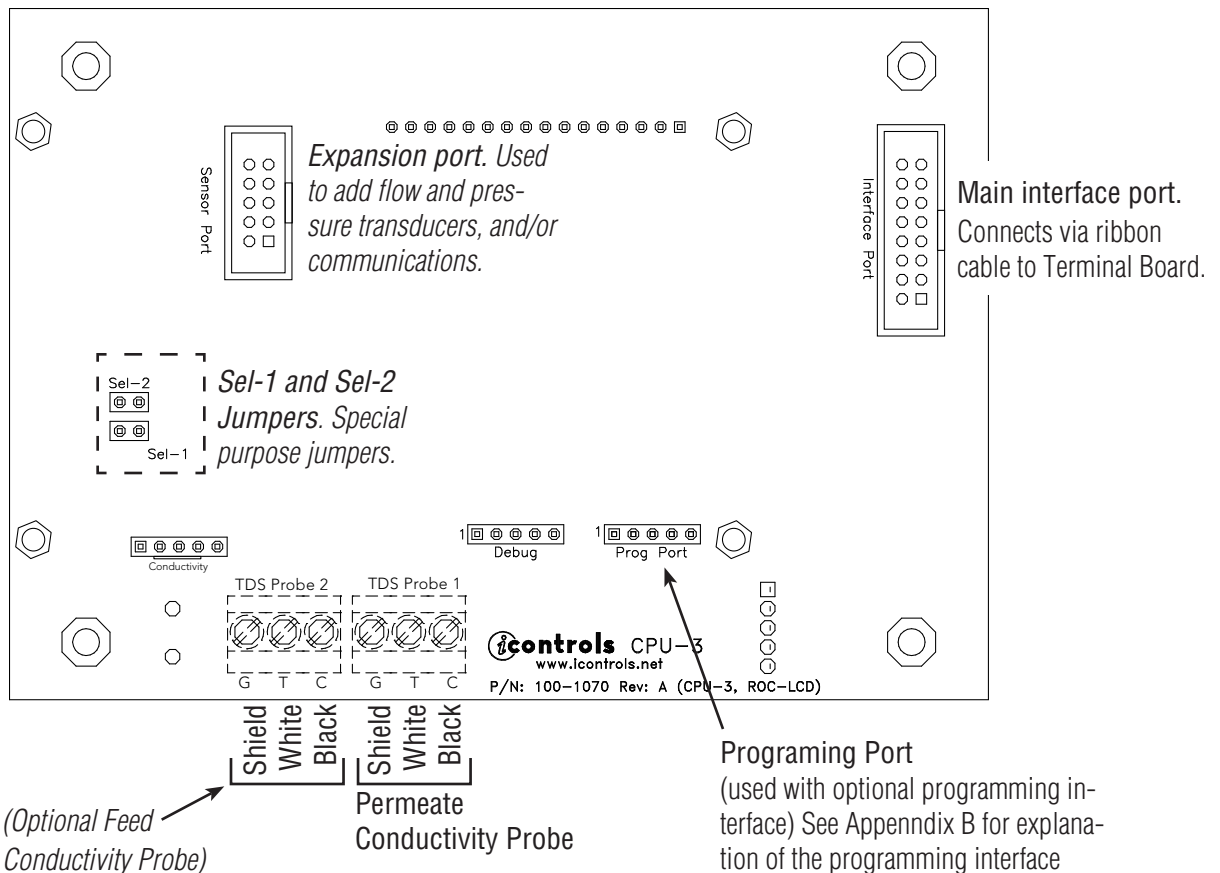

Figure 4. Controller Detail: Terminal Board, TB-2 (See Fig. 1 for schematic)
3. Bring the wires from the peripheral devices into the enclosure and connect them to the appropriate terminals. (See Figure 1, Figure 3 and Figure 4.)
4. Set the voltage selector switch on the Terminal Board to the desired voltage (110VAC or 240VAC) (See Figure 4.)
5. Install the correct power fuse for your voltage/motor HP. See the table below. Refer to Table 1 on page for the recommended fuse type. Refer to Figure 4 for the fuse locations..